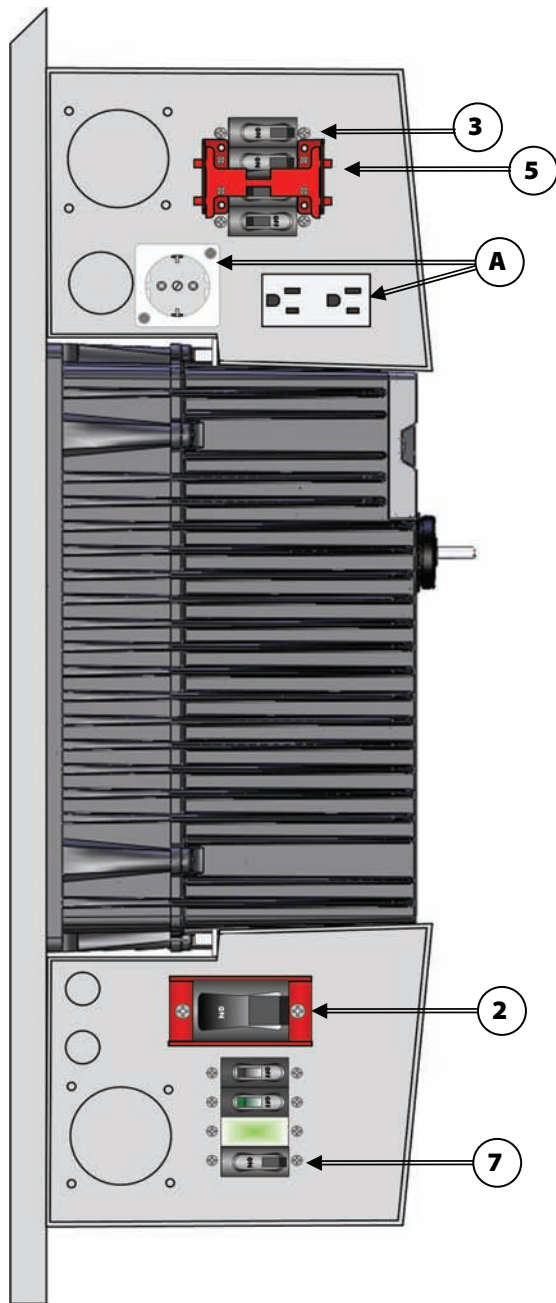

Figure 19 Energize Procedures
2. Close the DC Breakers from the battery bank to the inverter. **2** See Figure 19.
3. Close the AC Output Breakers. **3** See Figure 19.
5. Close the AC Input Breakers. **5** See Figure 19.
7. Close the PV input Breakers. **7** See Figure 19.